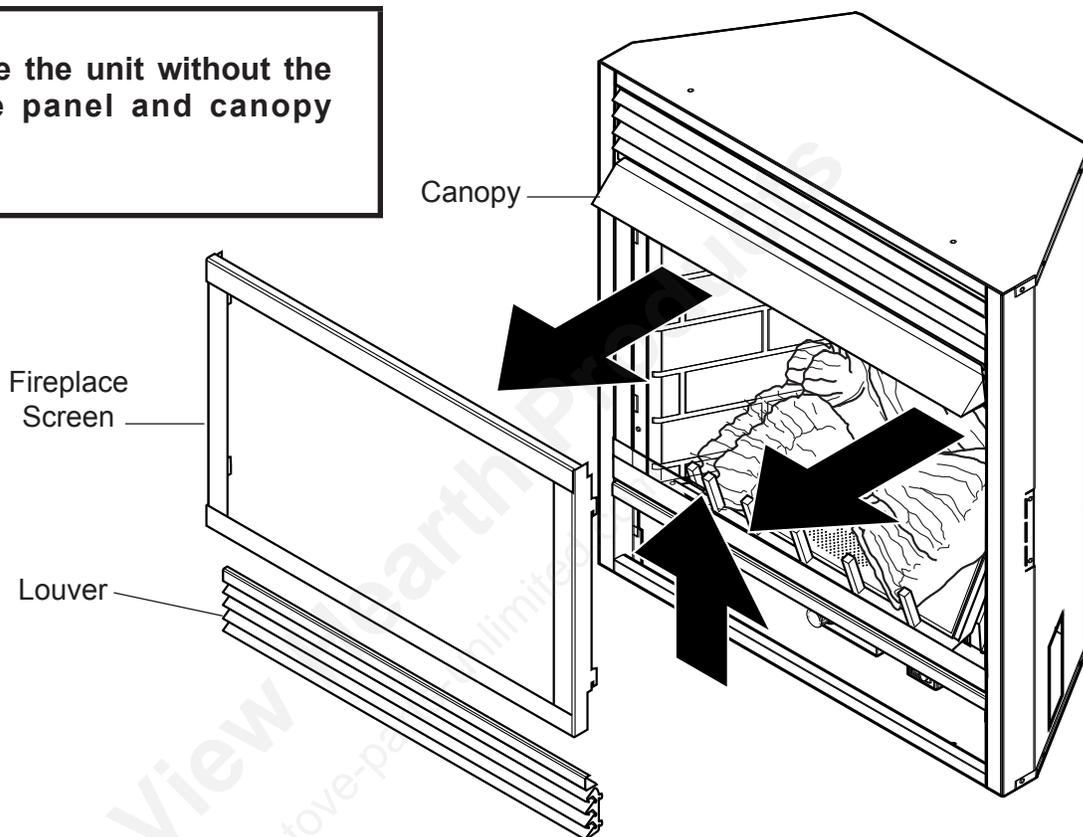

Figure 14 - Removing Fireplace Screen Frame Panel
- two (2) retainer brackets
- two (2) black screwsIf any part or parts are missing, contact dealer where you bought fireplace.
3. Remove fireplace screen (See Figure 14, page 14) and logs.
1. Remove bottom louver. *See Figure 14.*
2. Removing fireplace screen frame panel by pushing screen frame panel up and out. *See Figure 14.*
Ensure that minimum clearances shown in *Figures 14 and 15* are maintained. Left and right clearances are determined when facing the front of the firebox.